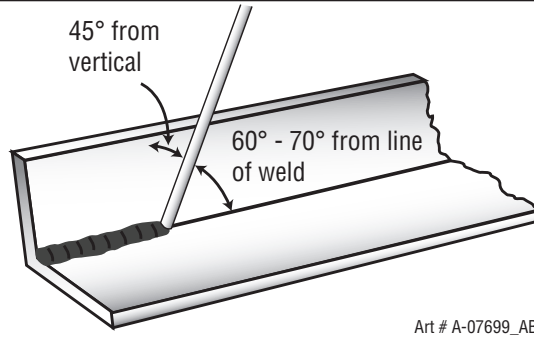
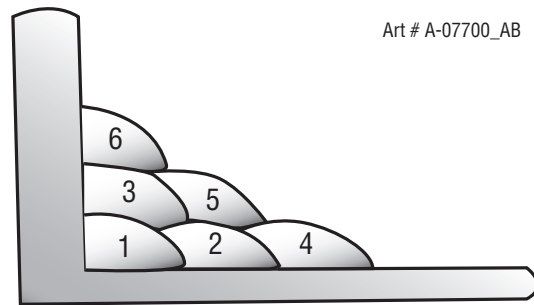

Figure 4-23: Electrode Position for HV Fillet Weld
Figure 4-24: Multi-runs in HV Fillet Weld
A piece of angle iron is a suitable specimen with which to begin, or two lengths of strip steel may be tacked together at right angles. Using a 1/8" (3.2mm) E7014 Stick electrode at 100 amps, position angle iron with one leg horizontal and the other vertical. This is known as a horizontal-vertical (HV) fillet. Strike the arc and immediately bring the electrode to a position perpendicular to the line of the fillet and about 45° from the vertical. Some electrodes require to be sloped about 20° away from the perpendicular position to prevent slag from running ahead of the weld. Refer to Figure 4-23. Do not attempt to build up much larger than 1/4" (6.4mm) width with a 1/8" (3.2mm) electrode, otherwise the weld metal tends to sag towards the base, and undercut forms on the vertical leg. Multi-runs can be made as shown in Figure 4-24. Weaving in HV fillet welds is undesirable.